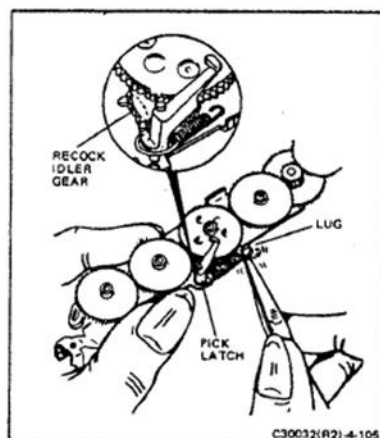

FIGURE 4-105 INSTALLING THE PICK LATCH
8. On newer cameras, position the pick latch pivot in the proper hole of the outer plate and hook the longer end of the pick latch spring on to the latch. Using tweezers as shown in Figure 4-105, hook the opposite end of the spring over the retaining lug.
9. On early cameras, hook the wide end of the pick latch spring on the pick latch and slide the short hooked end of the latch under the recock gear. (See the inset in Figure 4-105.) Set the latch pivot into the hole on the outer plate and, with tweezers, hook the opposite end of the spring over the retaining lug.